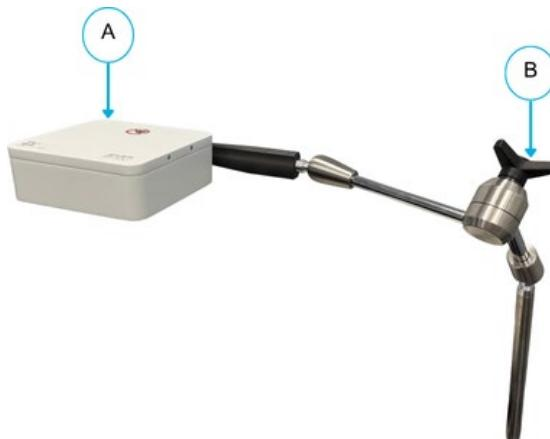

Figure 12-3: Field Generator
1. Hold the Field Generator (**A**) firmly. Ideally, with both hands (**Figure 12-3**).